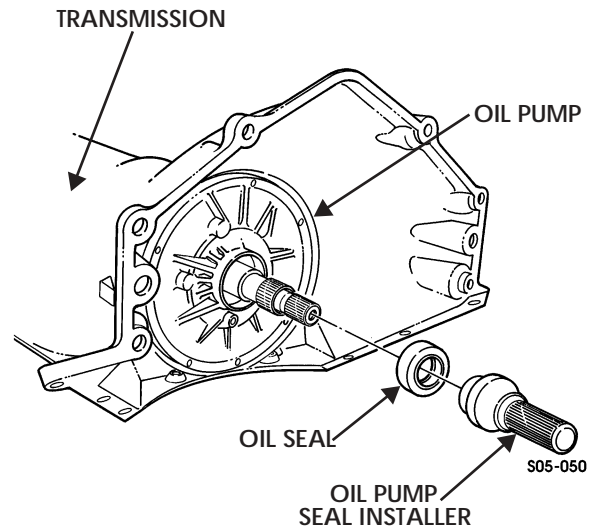

Figure 5-97: Oil Seal Removed From Oil Pump
3. Remove oil seal from oil pump and discard (Figure 5-97).
1. Apply sealing compound to outside diameter of oil seal (Figure 5-97).